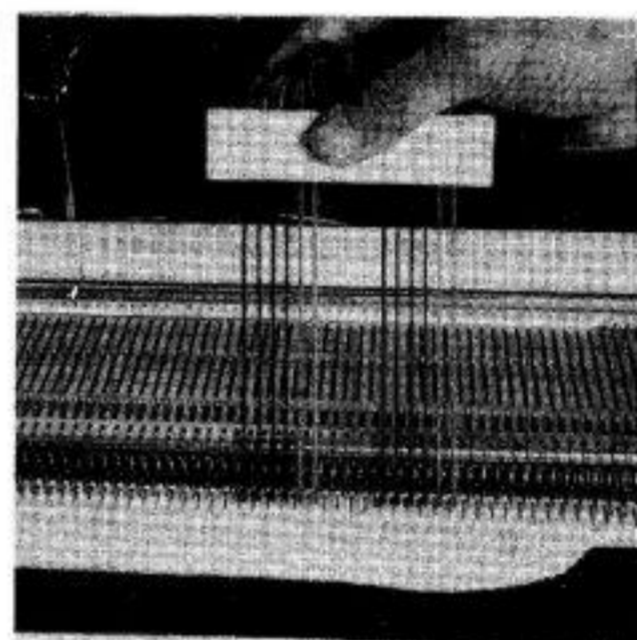

Fig. 69
- (e) Raise the Vertical Pattern Knitter as shown in Fig. 69 and hook each strand onto its adjacent needle **on the left**.
- (d) Raise the Vertical Pattern Knitter as shown in Fig. 69 and place each strand of cotton into the hook of the adjacent needle to the **left** as you lower the Vertical Pattern Knitter. Knit this row by moving the Carriage from left to right.